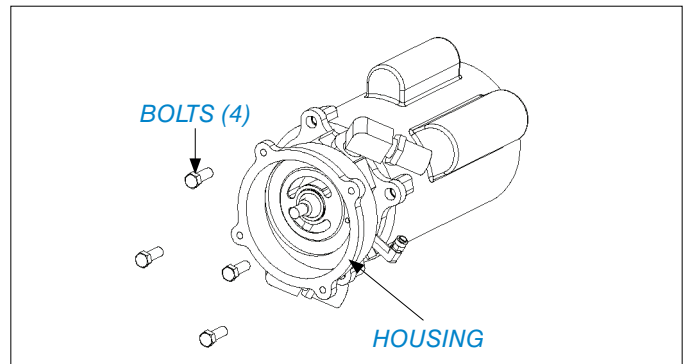

FIGURE 12. TAKE OFF HOUSING
11. Remove the housing bolts and take off the housing by pulling it off the shaft (*FIG 12*).